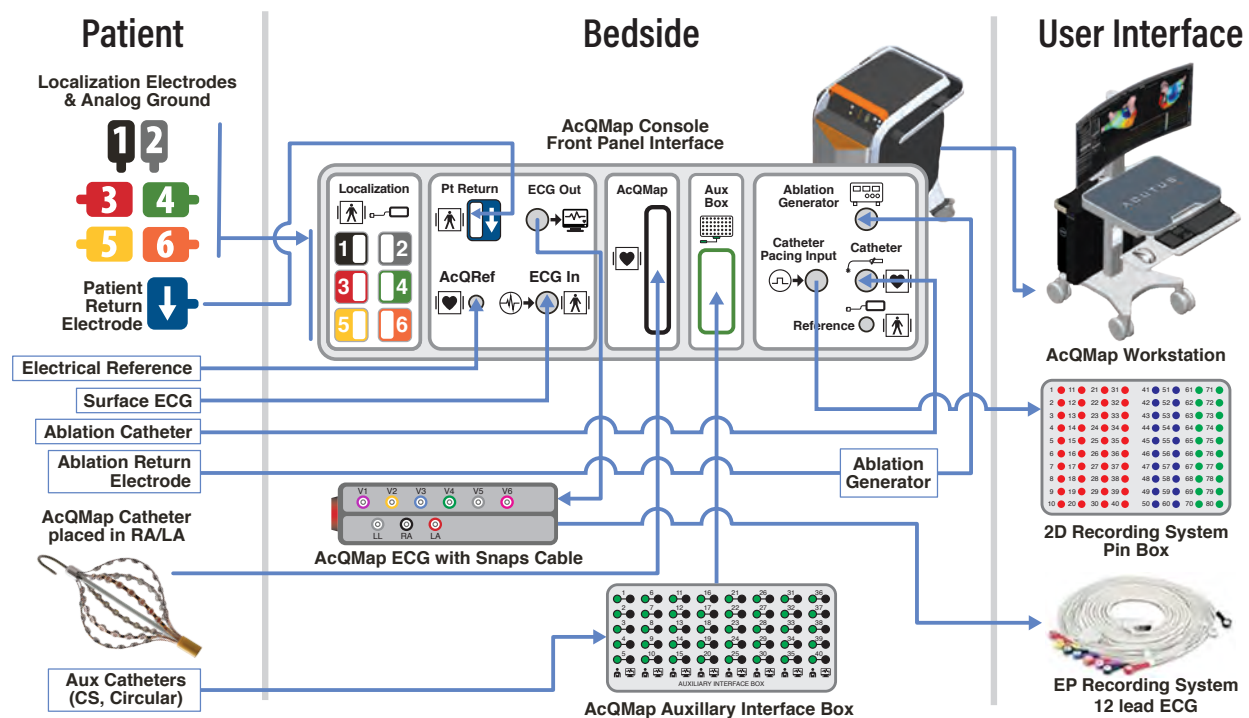
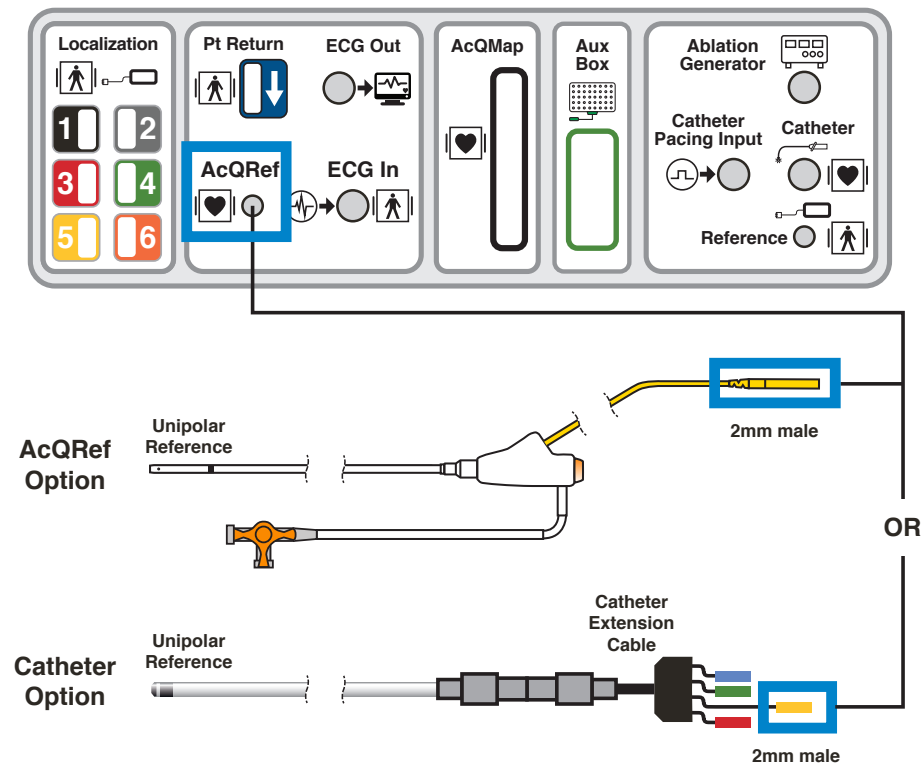

Figure 5-1. AcQMap System connections.
Figure 5-3. Electrical Reference specifications and connections.
Refer to *Figure 5-1* through *Figure 5-3* when performing the following steps.
3. Connect the Electrical Reference Catheter/Cable to the AcQMap Console front panel per Chapter 5, Figures 5-1 and 5-2.
1. Insert an Anatomic Reference Catheter into the right or left femoral vein per standard laboratory procedure. (Refer to *Figure 5-3* for recommended catheter/electrode spacing requirements).
3. Connect the Anatomic Reference Catheter/Cable to the AcQMap Auxiliary Interface Box using the appropriate manufacturer's catheter extension cable per Figures 5-1 and 5-3.